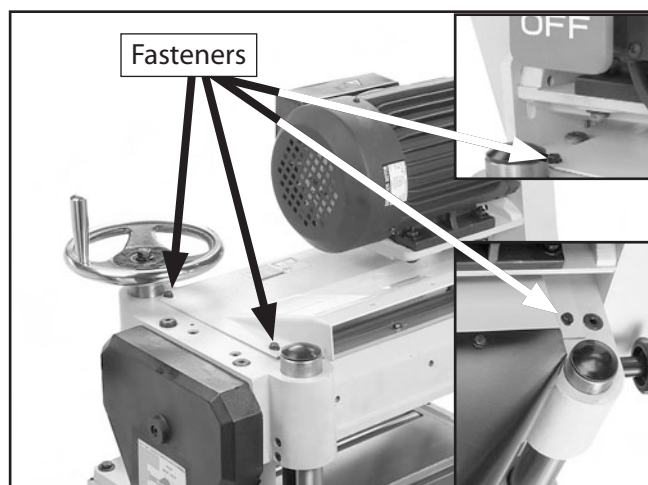

Figure 11. Top cover installed (two of four fasteners shown).
1. Slide the top cover under the motor, and secure it with the three M6-1 x 10 flange bolts and the M6-1 x 15 hex bolt (**Figure 11**).